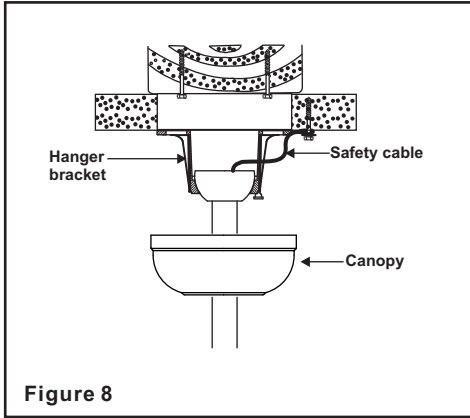

Figure 8
**Step 9.** Place the downrod ball into the hanger bracket socket. (Fig. 8)
**Step 10.** Secure the safety cable to the building structure with a wood screw. (wood screw not supplied) (Fig. 8)